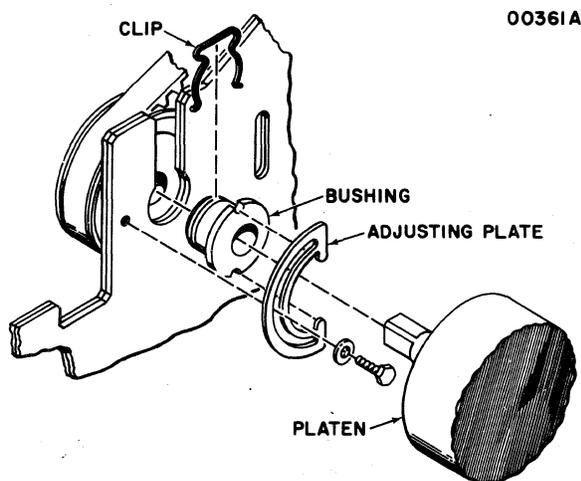

Figure 6-6 Platen Adjustment
6.3.2 PLATEN ADJUSTMENT—Refer to Figure 6-6.